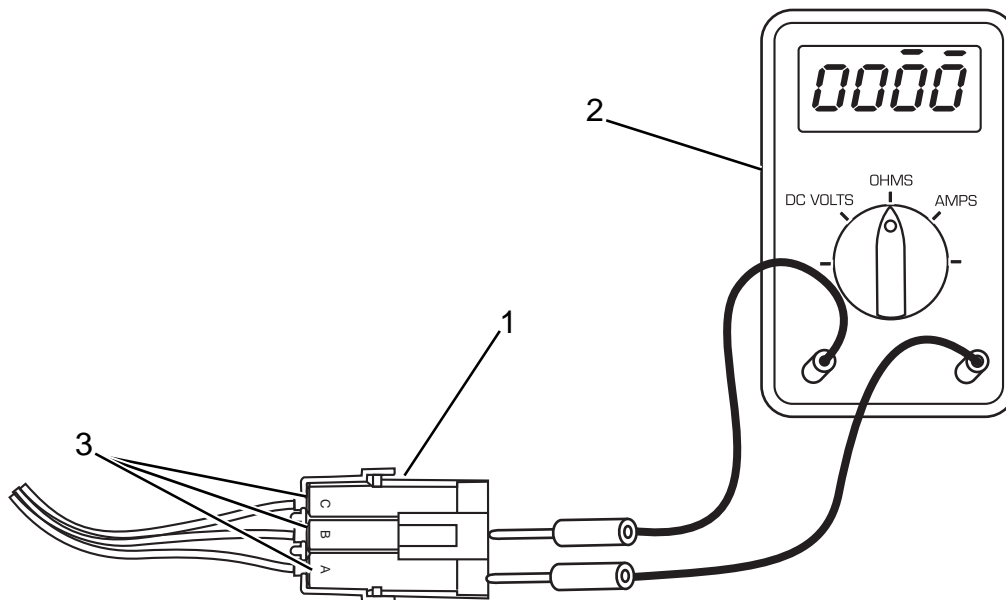

Figure 29
- Disconnect the 3-pin Weatherpak male connector (**Figure 29, 1**) end of the linear harness from the 3-pin Weatherpak female connector (**Figure 28, 1**) on the control box.
- Using a multimeter (**Figure 29, 2**), check the OHM resistance across "Pin A" and "Pin B" (**Figure 29, 3**) of the Weatherpak connector. The multimeter should read between 14500 and 16500 OHMS with the linear sensor extended.
- Using the multimeter again, check the OHM resistance across "Pin A" and "Pin B" (**Figure 29, 3**) of the Weatherpak connector. The multimeter should read between 400 and 700 OHMS with the linear sensor retracted.